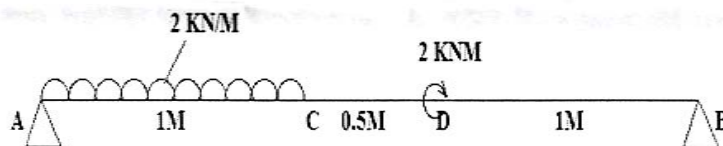

Figure 3a
3 .a A simply supported beam subjected to a uniformly distributed load and a clock wise couple is shown in figure 3a. Draw the shear force and bending moment Diagram. (8)